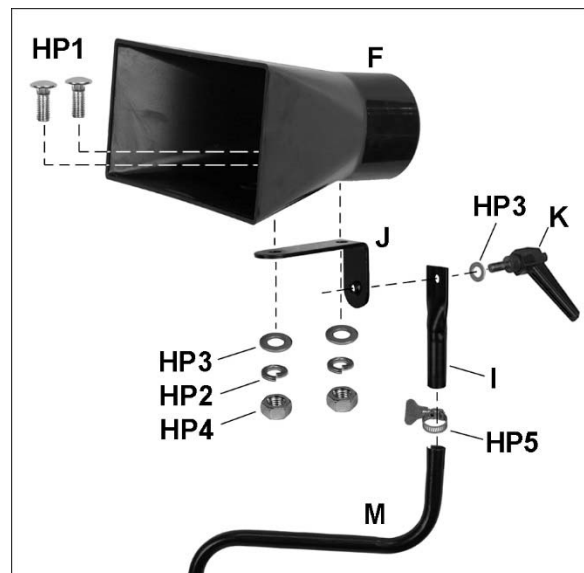

Figure 5-4
3. Install upper support tube (I) and secure with butterfly clamp (HP5). See Figure 5-4.
4. If funnel will be used, mount funnel bracket (J) to upper support tube (I) with locking lever (K) and washer (HP3). Install funnel (F) with carriage bolts, washers and nuts (HP1/2/3/4).